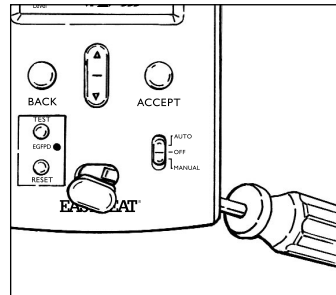

Fig. 3
2. Pop out the Screw Cover by gently pushing from behind, with the enclosed screwdriver, see Figure 3.